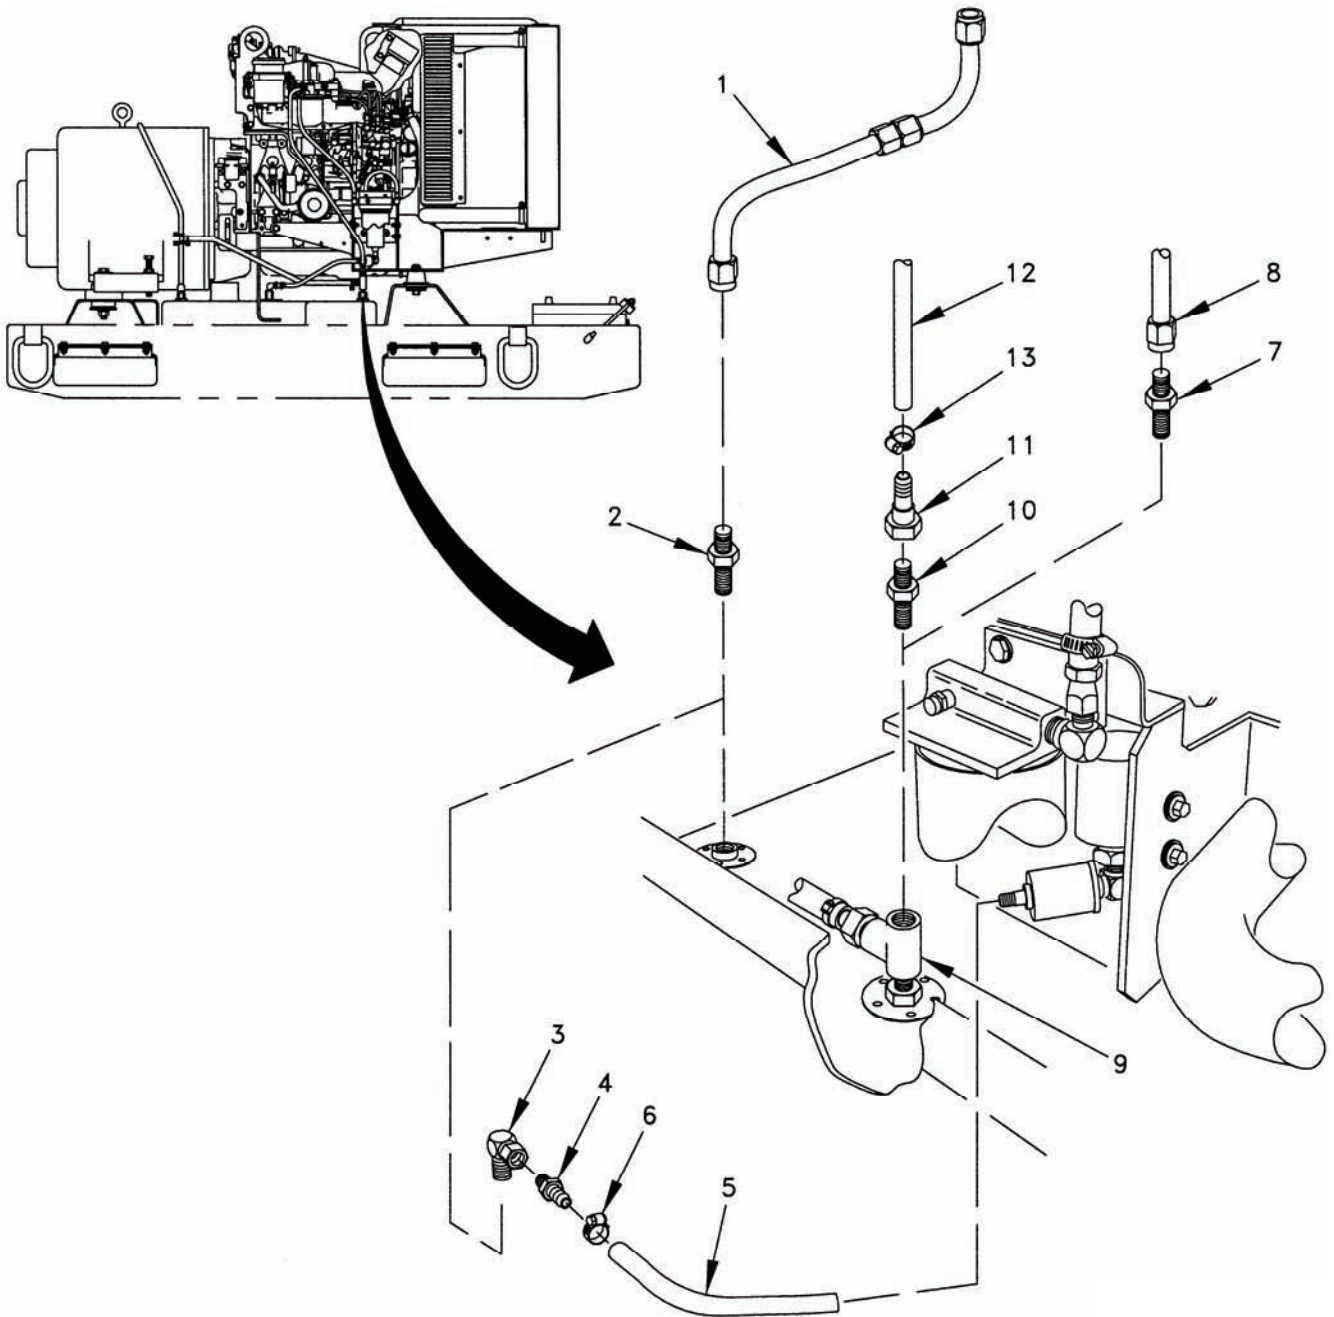

Figure 5-26. Fuel Line.
- a. Remove hose (1, Figure 5-26) and hose fitting (2) from fuel supply line.
- b. Apply sealing compound (Item 6, Table 5-2) and install elbow (3) (Item 72, Table 5-1), fitting (4) (Item 73, Table 5-1), 14-inch (35.6 cm) hose (5) (Item 101, Table 5-1), and hose clamp (6) (Item 21, Table 5-1).
- d. Remove fitting (7) and hose (8) above T fitting (9) on fuel supply line.
- e. Apply sealing compound (Item 6, Table 5-2) and install adapter (10) (Item 96, Table 5-1), fitting (11)